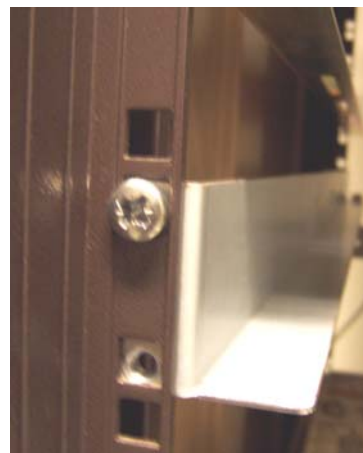

Figure 3.4 Rack mounting kit mounted in rack
5. Mount the “Rail Left Assembly” at desired height using one M6x12 screw in front (upper hole in rail only) and two M6x12 screws at the backside. See figure 3.4.
Figure 3.4 shows step 5 in the description: